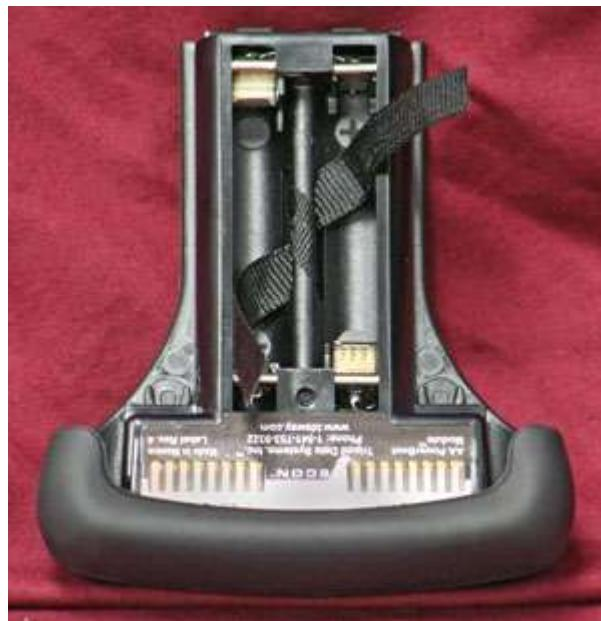

Figure 10: PDA AA power boot module (front).
Your Recon-400 is supplied with two (2) interchangeable DC power supplies (Figures 10 and 11). The system is configured with the AC rechargeable power boot module installed.